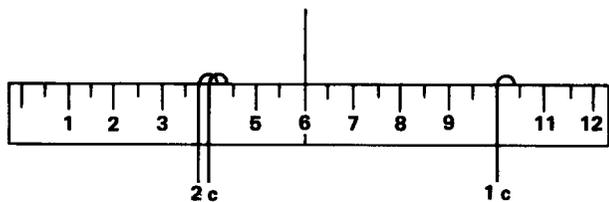

Figure 6-14
3. Place *two* clips on the 4-in. mark on the ruler, and *one* clip on the 10-in. mark. The ruler should be balanced with the clips in these positions (Fig. 6-14).